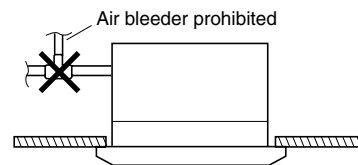

Fig. 3-8
- **Do not install an air bleeder as this may cause water to spray from the drain pipe outlet. (Fig. 3-8)**